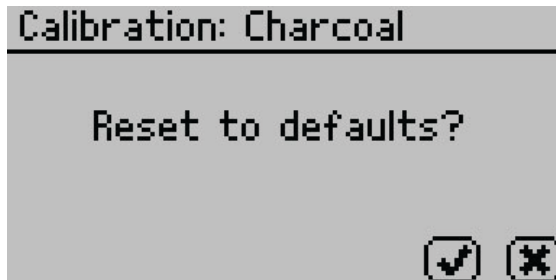

Figure 25 Confirmation dialog to reset calibration to defaults
- A confirmation dialog will appear (Figure 25).